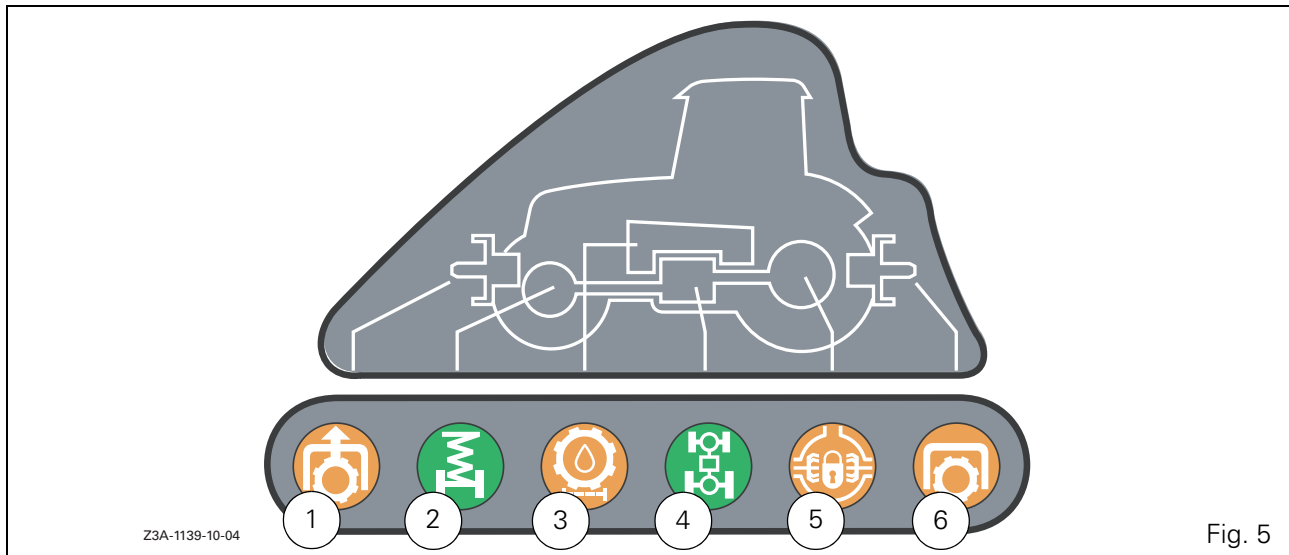

Fig. 5
3.2.1 Control indicator lights for functions in use (Fig. 5)	3.7
19. Control indicator lights for functions in use (see details in Fig. 5).
3.2.1 - Control indicator lights for functions in use (Fig. 5)